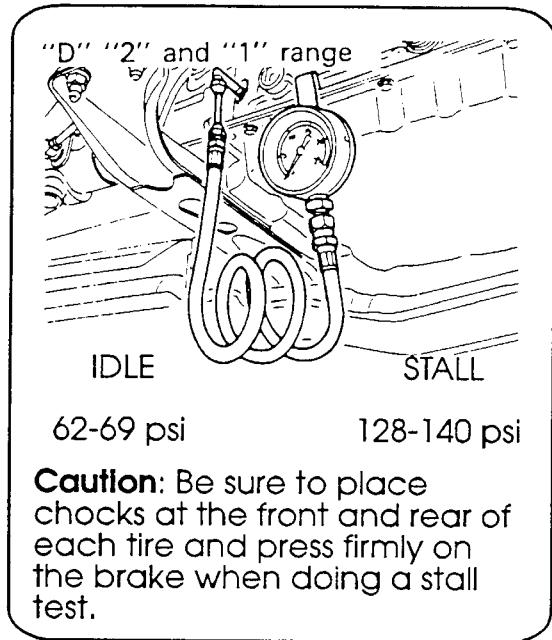
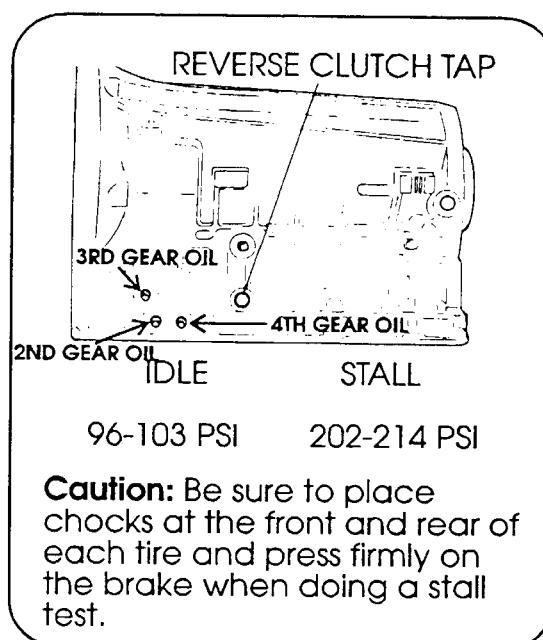

Figure 1
Figure 2
**1988 VEHICLES:** To check main line pressure in the "D", "2" and "1" range, connect a 300 pound pressure gauge to the FORWARD CLUTCH TAP located on the passenger side of the transmission near the back of the case. Refer to Figure 1 for tap locations and pressure specifications. To check main line pressure in REVERSE, connect a 300 pound pressure to the reverse clutch tap located on the drivers side of the transmission. Refer to Figure 2 for tap location and pressure specifications.